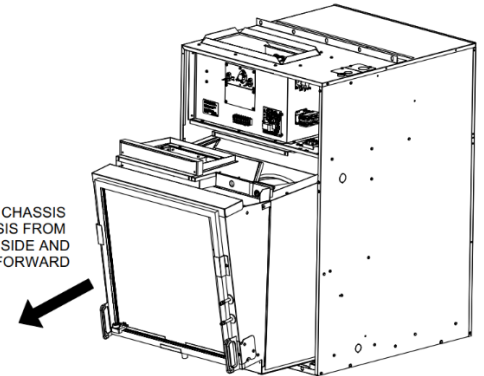

FIGURE 33 – Slide Out Cooling Chassis
- 4) Slide-out cooling chassis. **FIGURE 33–Slide Out Cooling Chassis.**